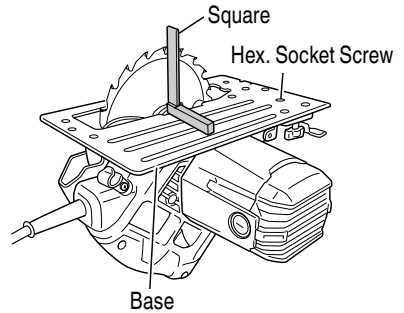

Fig. 19
- (1) Turn the base face up (Fig. 19) and loosen the lever (A).
- (2) Apply a square to the base and the saw blade and, turning the Hex. socket screw with a Hex. bar wrench, shift the position of the base to produce the desired right angle.